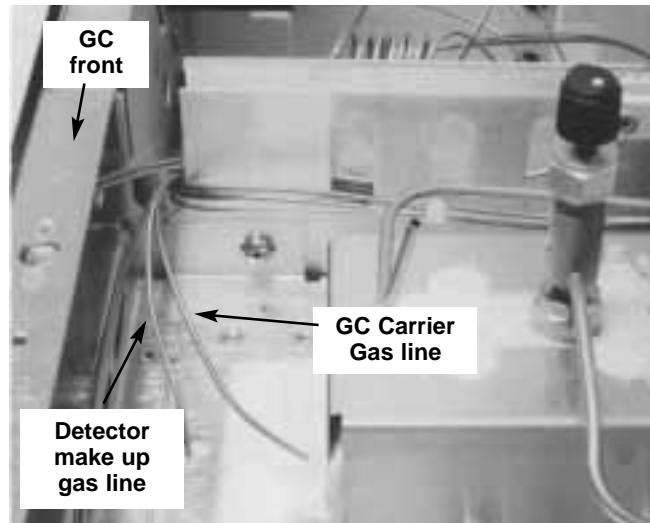

Fig 3.3 Close-up of the injection port area.
4. There is a single $\frac{1}{16}$ " stainless steel gas line which enters the front of the injection port which provides the carrier gas. See **Figure 3.3**. Verify that this is the carrier gas line by tracing the line back from the injection port to its source. The carrier gas line will eventually terminate at the carrier gas inlet for the gas chromatograph.